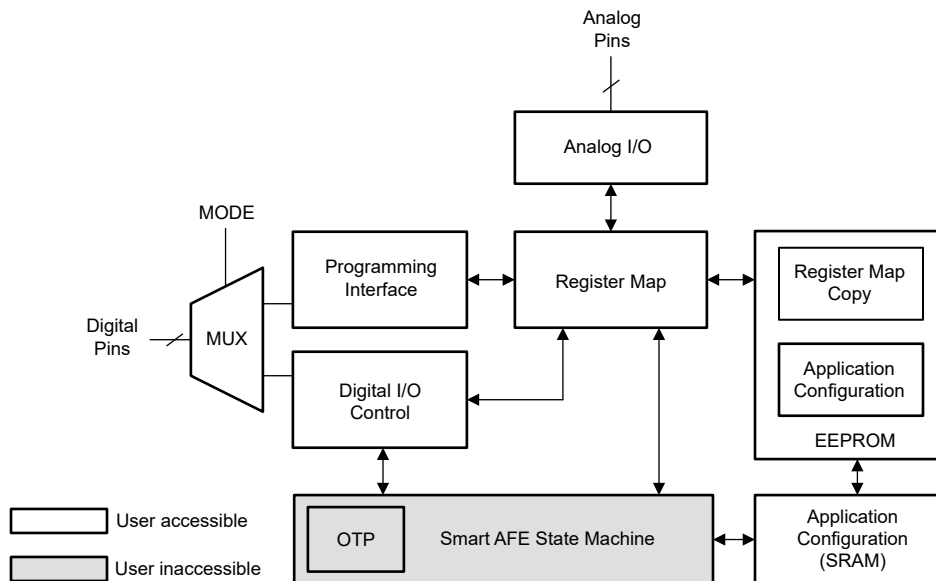

Figure 7-4. Smart AFE Architecture
The AFE_{x39xx} feature a programmable state machine supporting arithmetic, logic, and timing operations, as shown in Figure 7-4. This state machine has been pre-programmed as a proportional-integral (PI) controller allowing the user to program the coefficients and input-output parameters. The details of the PI controller are discussed in Section 7.4.6. The user configurations are stored in the NVM and the state machine can be operated in standalone mode without interfacing to a processor (*processor-less operation*)